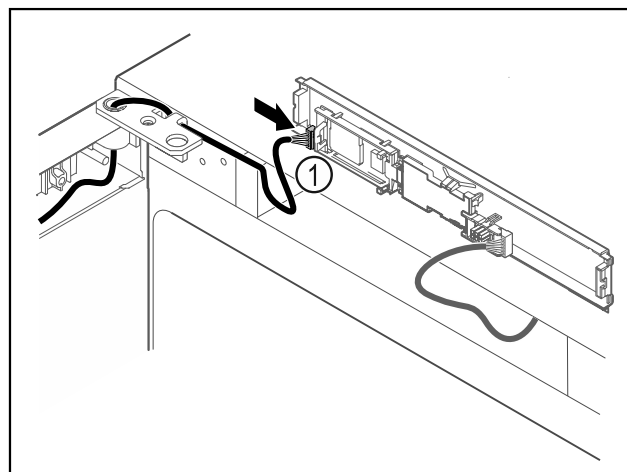

Fig. 55
- Connect the plug Fig. 55 (1) to the circuit board.